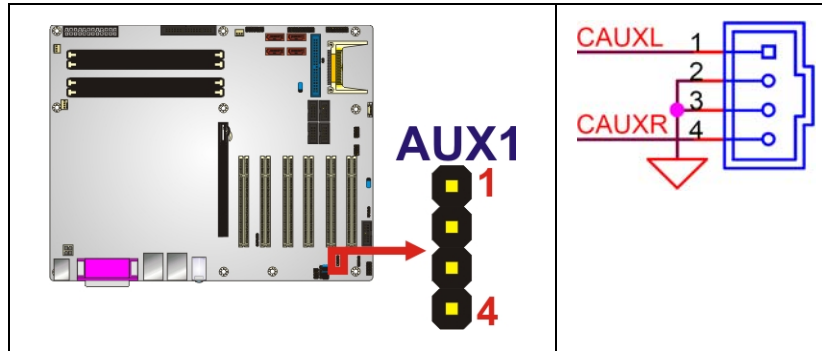

Figure 4-5: Auxiliary Audio Connector Location (4-pin)
- CN Location:** See Figure 4-5